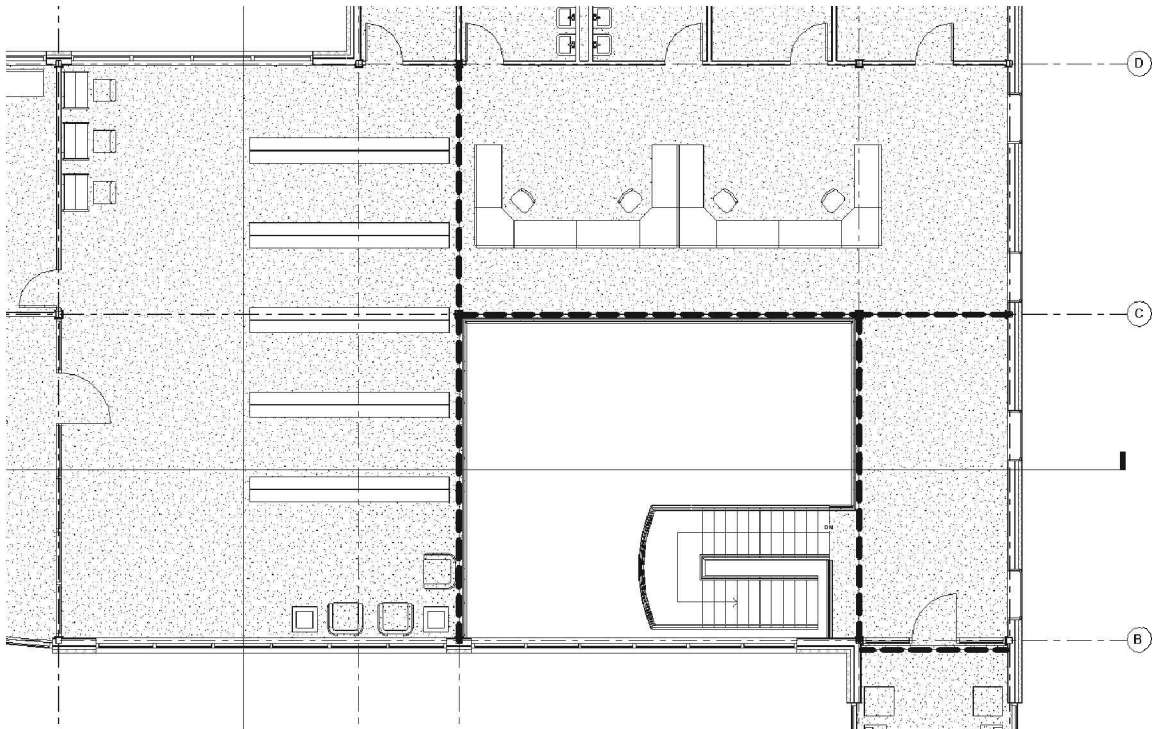

FIGURE 12-1.8 Level 2 Room Separation Lines added, shown as heavy dashed line
16. Add the **four** *Room Separation Lines* shown in Figure 12-1.8.